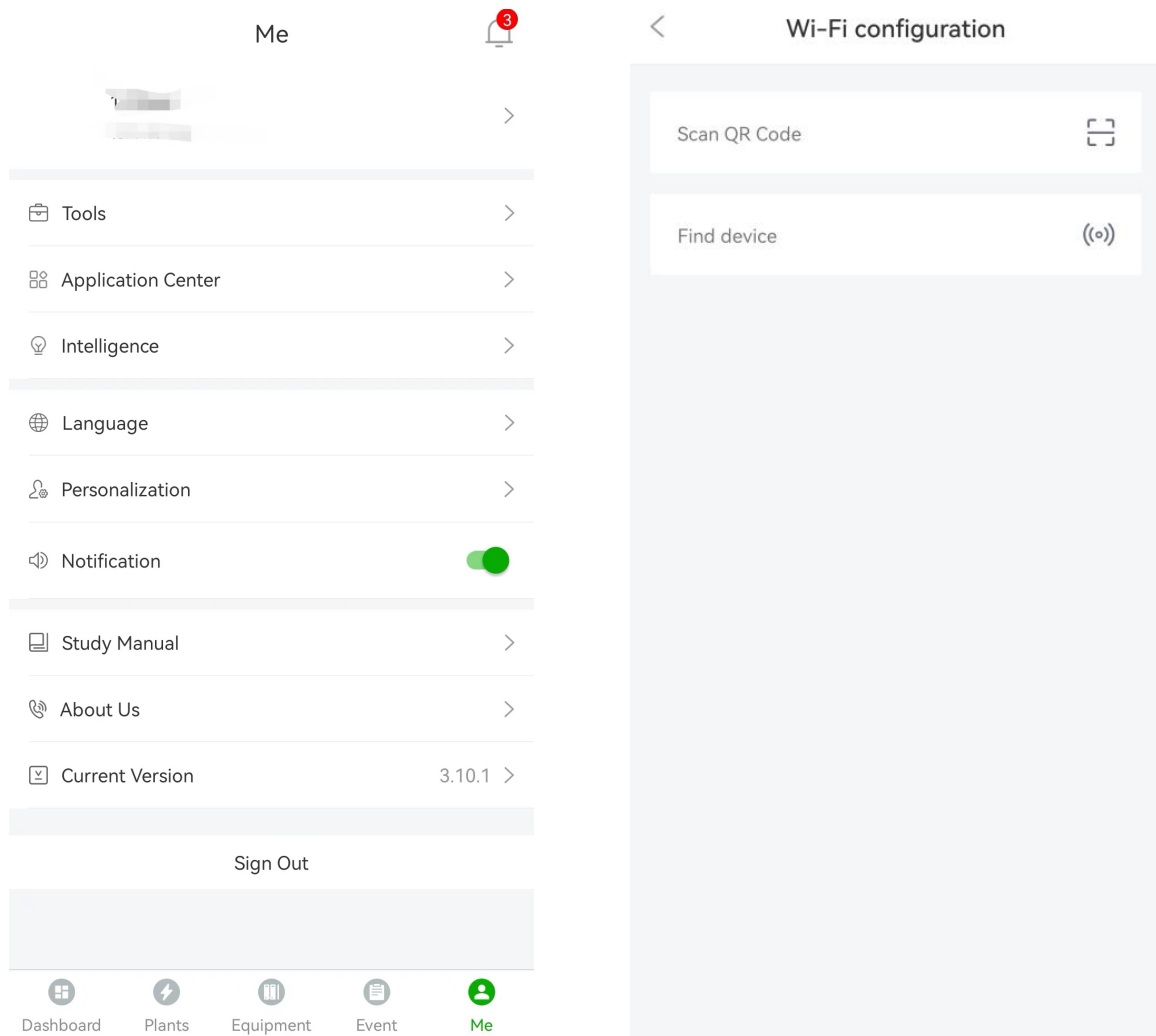

Figure 5-1 Wi-Fi Setting
1. Click the Tools bar on the "Me" page to enter the "Tools" page, select "Wi-Fi configuration". The APP provides two methods for connecting to Wi-Fi devices, find device and Scan QR code, as shown in Figure 5-1.